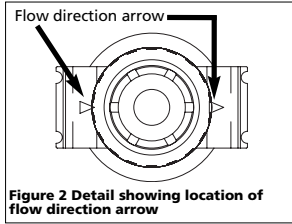

Figure 2 Detail showing location of flow direction arrow
1. Locate the air flow direction arrow (See Figure 2, detail). This arrow shows the direction of the air flow, i.e., it points to the outlet.
4. Verify the arrow points to the outlet. (See Figure 2.)
4. Verifique que la flecha apunte hacia la salida (Vea Fig. 2).